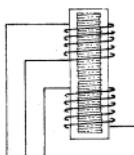

Fig. 4
- 2) Connect Genescope Output to  $300\Omega$  impedance FM Antenna Terminal, and Genescope Input to Terminal (8) (AF Output) of FM IF P.C. Board.
- 4) Adjust the upper core of IF Adjustment Core in front end so that the value of the S Curve wave height is maximum. Then adjust the lower core so that the noise element is maximum and the upper and lower reaches of the scanning line are the same level (See Figs. 4, 5 and 7).